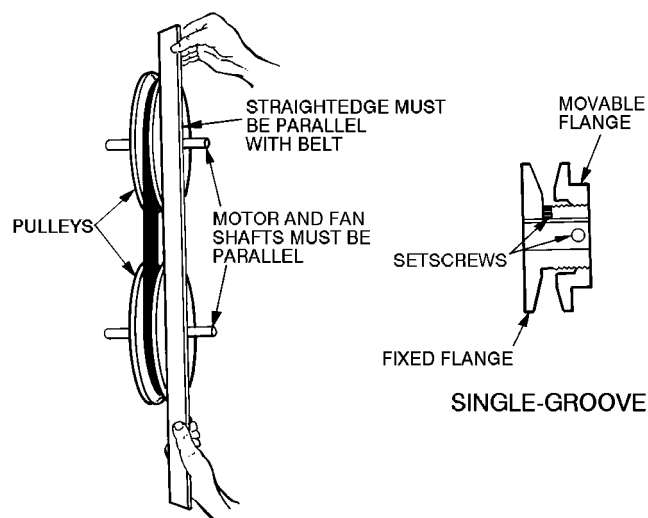

Fig. 29 — Indoor-Fan Pulley Adjustment
3. Loosen movable pulley flange setscrew (see Fig. 29).